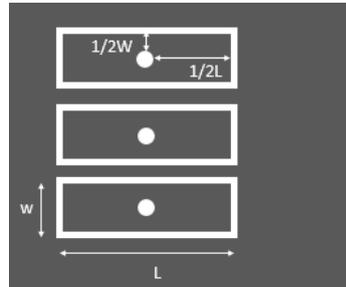

Figure 7, the desired location
- a) Find and mark the centre of the desired detector location. Shown as figure 7: